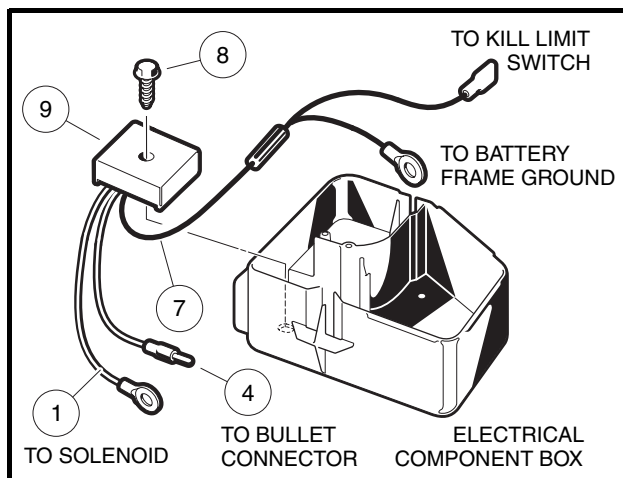

Figure 12-15 Voltage Regulator
5. Disconnect the voltage regulator red wire (1) at the large post on the solenoid, the yellow wire (4) at the bullet connector and the black wire (7) from the wire harness and at the battery frame ground (**Figure 12-15, Page 12-11**).
6. Remove the voltage regulator mounting screw (8) and remove the voltage regulator (9).
1. Position the voltage regulator (9) in the electrical component box and install the mounting screw (8) and tighten screw to 23 in-lb (2.6 N·m) (**Figure 12-15, Page 12-11**).
2. Connect the voltage regulator red wire (1) at the large post on the solenoid with the other red wires, the yellow wire (4) at the bullet connector and the black wire (7) to the wire harness and the battery frame ground (**Figure 12-15, Page 12-11**).